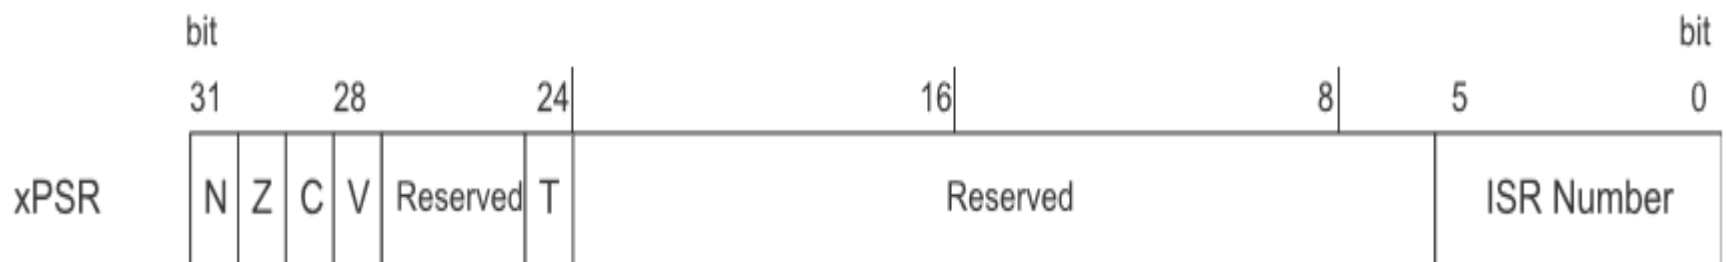

Figure 3.4:
- If this bit is cleared, a hard fault exception will be generated in the next instruction execution. These three registers can be accessed as one register called xPSR (Figure 3.4).